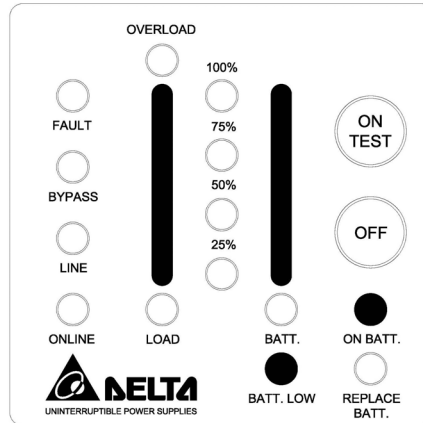

Fig 4-7 Battery Low
- ✓ **BATTERY LOW:** This function is to inform user the remaining power capacity of the batteries. When batteries reach a low level condition, the UPS alarm will beep half second every 1.5 seconds until running out of battery capacity. Shown as fig 4-7.